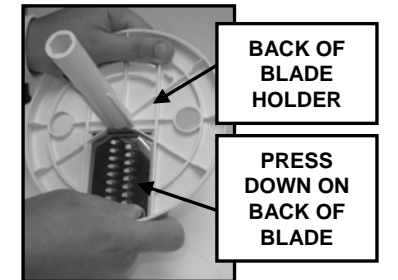

Fig. 7
- To remove the blade from the blade holder, push the blade from the back of the blade holder. (Fig. 7)